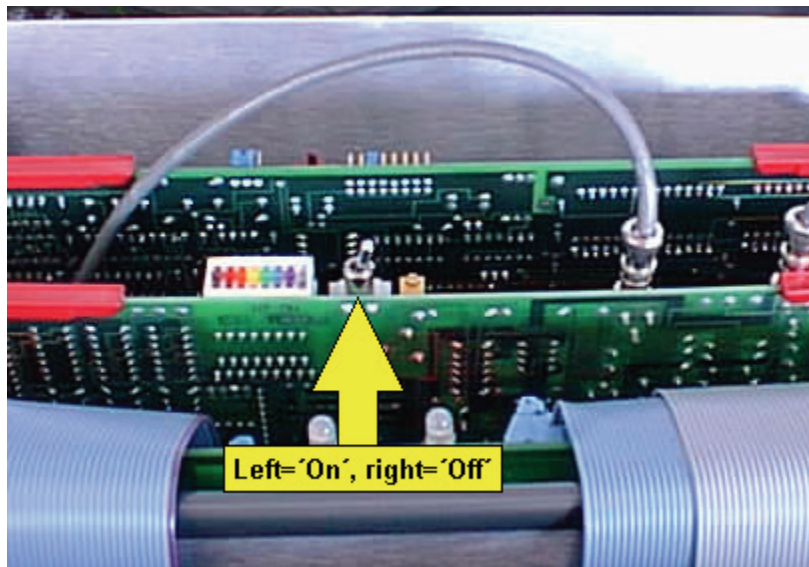

Figure 56 HT switch for the photomultiplier
2. Switch off the HT supply to the photomultiplier, as shown in Figure 56.